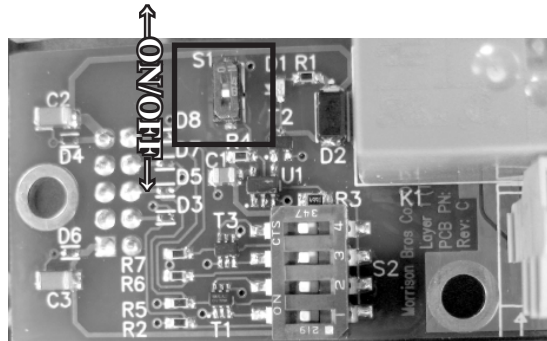

Figure 7 - Configuring the OUTPUT MODULE
- b. **Relay Mode:** Configure the Dry Contact Output Module as Normally-Deactivated or Normally-Activated (fail-safe) See **Figure 7**.
- i. Locate the single position DIP switch, S1, on the Output Module to be configured (see Figure 7).